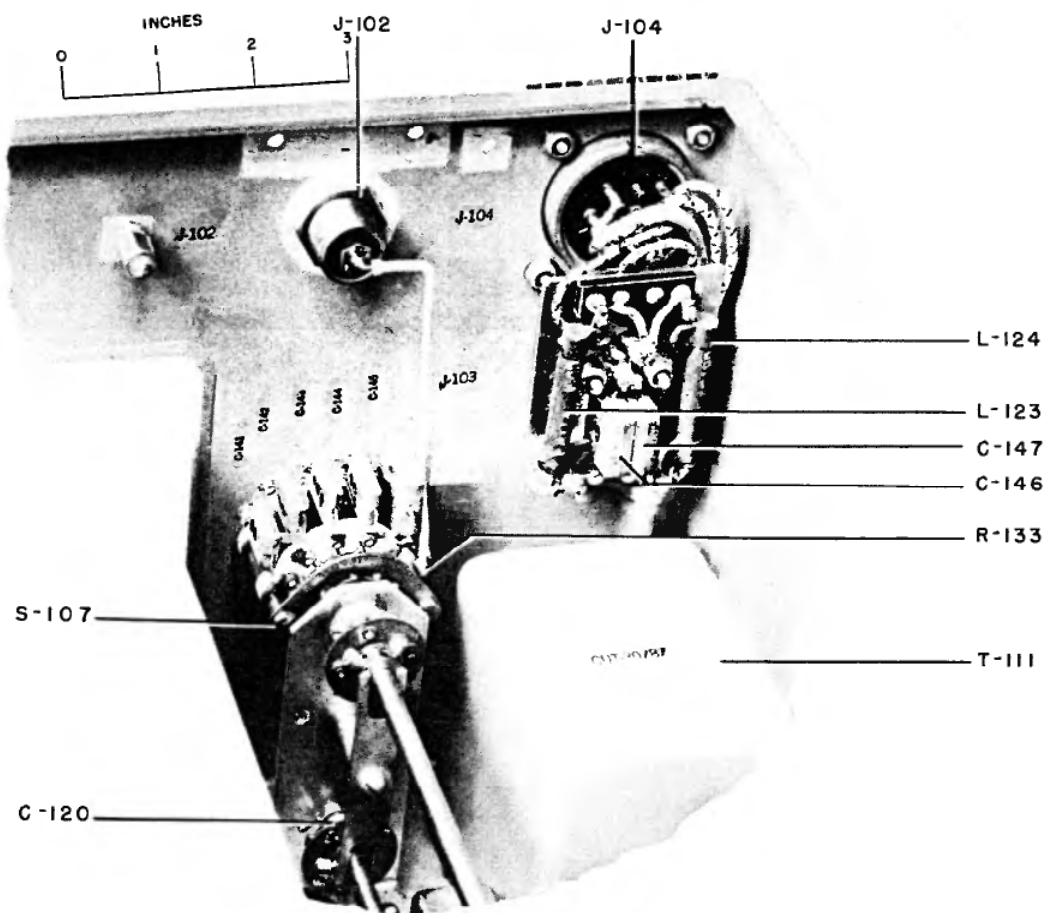

FIG. 10 INPUT COUPLING SWITCH AND OUTPUT RECEPTACLE FILTER—COVER REMOVED
**(A) To Remove:**
3. Remove Antenna Compensator shield enclosure. (See Fig. 10.)
**(B) To Replace:**